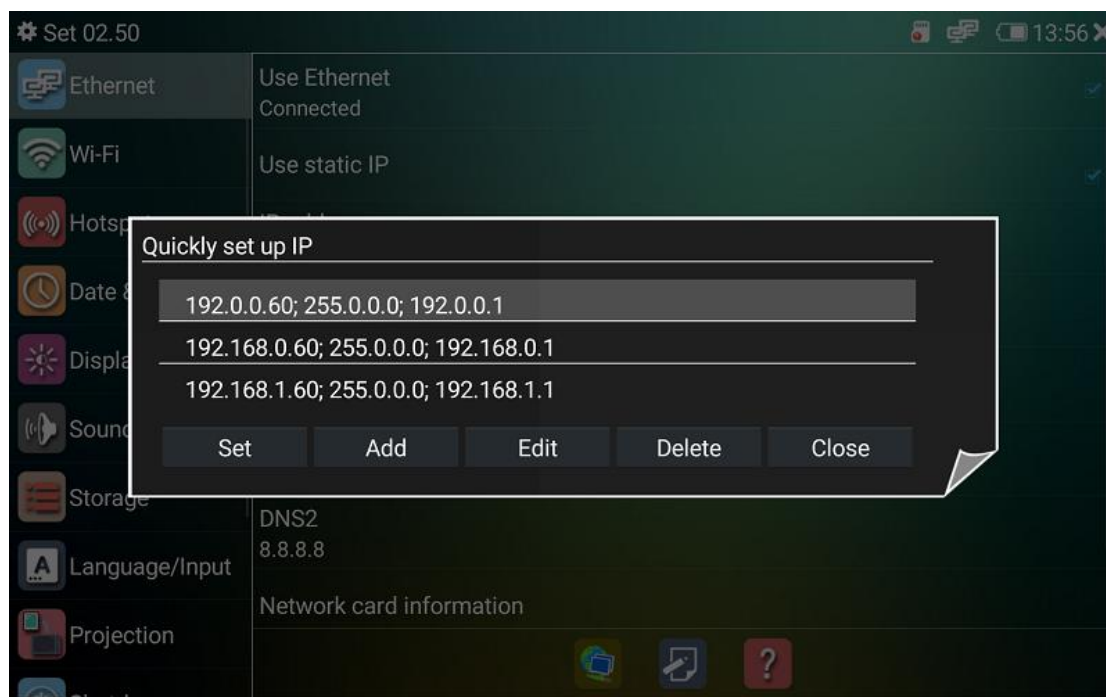

Figure 45
3. Touch the icon  in the bottom to set IP quickly, rapid IP setting enables you to add, edit and delete common used IP, touch the icon  in the bottom to restore default network settings, as shown in Figure 45